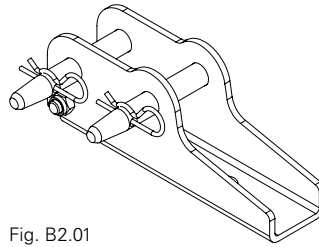
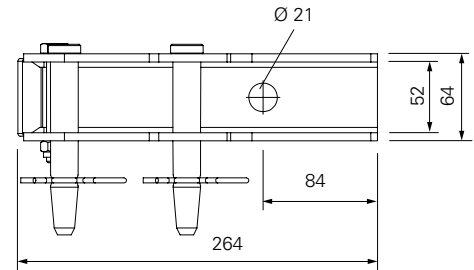

Fig. B2.01
Fig. B2.01a
(Fig. B2.01 + Fig. B2.01a)
The push-pull prop and the dowel are to be installed in the positions (A) and (B) shown. (Fig. B2.01 + B2.02 + B2.03)